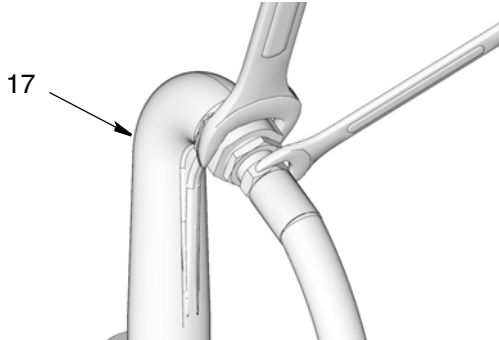

FIG. 76
- Using two wrenches on the flats, working in opposite directions, loosen and remove the hose from the outlet (FIG. 76).